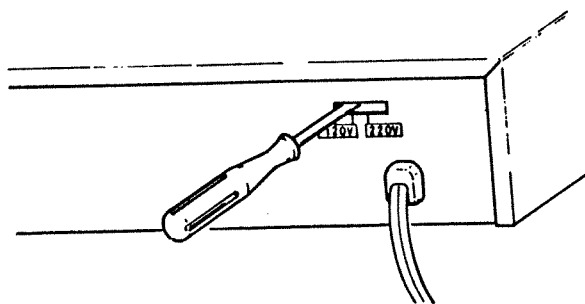
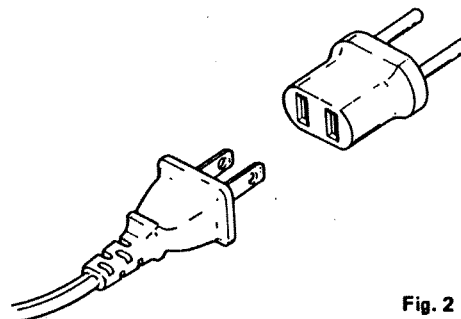

Fig. 1
Fig. 2
2. For "220V" operation, you must purchase an attachment plug with round pin, CAT No. S-I 6111 #11 manufactured by SHOWA MUSEN KOGYO Co., Ltd. as illustrated in Fig. 2, and also very important for you to change the position of AC voltage selector switch to "220V" as illustrated in Fig. 1.